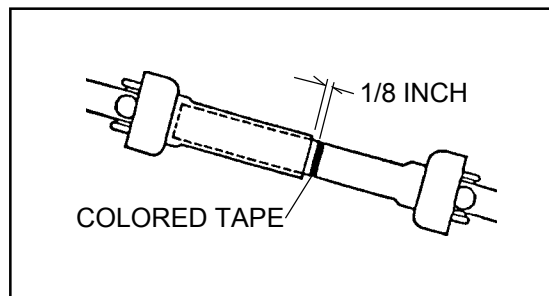

FIGURE 7
- * Apply colored tape to the Inner Shield 1/8" from the end of the Outer Shield. **FIGURE 7**